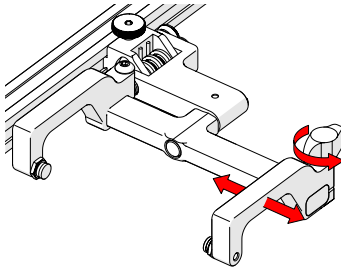

Fig. 116 - Arm adjustment
2. The probe holder arm adjustment knob can be rotated (*Fig. 116*), this allows placement of the HydroFORM™ by positioning the probe holder arm accordingly.